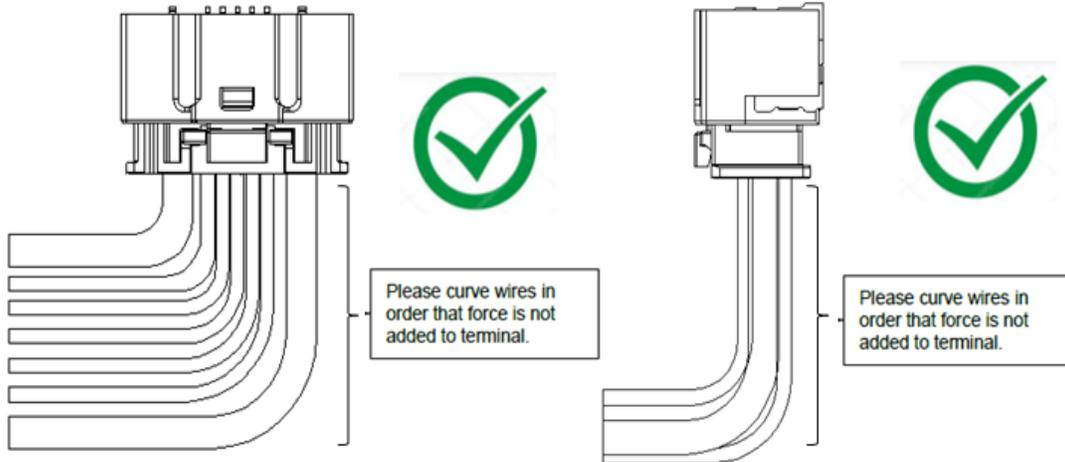

Fig 9.3.1 Condition wires are curved
- If you plan on pulling around wires inside machine, please take measures to prevent force from applying to connector directly, such as allowing wires to have enough flexibility.(Fig 9.3.1)